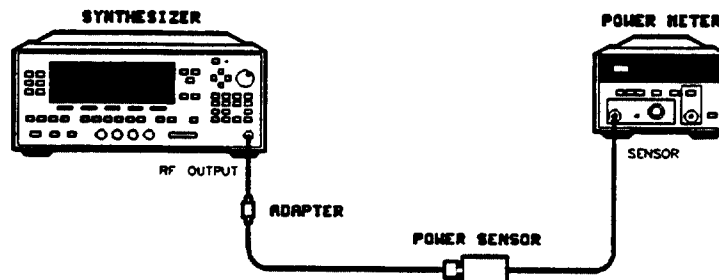

Figure 3-34. Square Wave Symmetry Adjustment Setup
1. Turn on the equipment shown in Figure 3-34 and let them warm up for at least one hour.
3. Connect the equipment as shown in Figure 3-34 and preset the instruments.